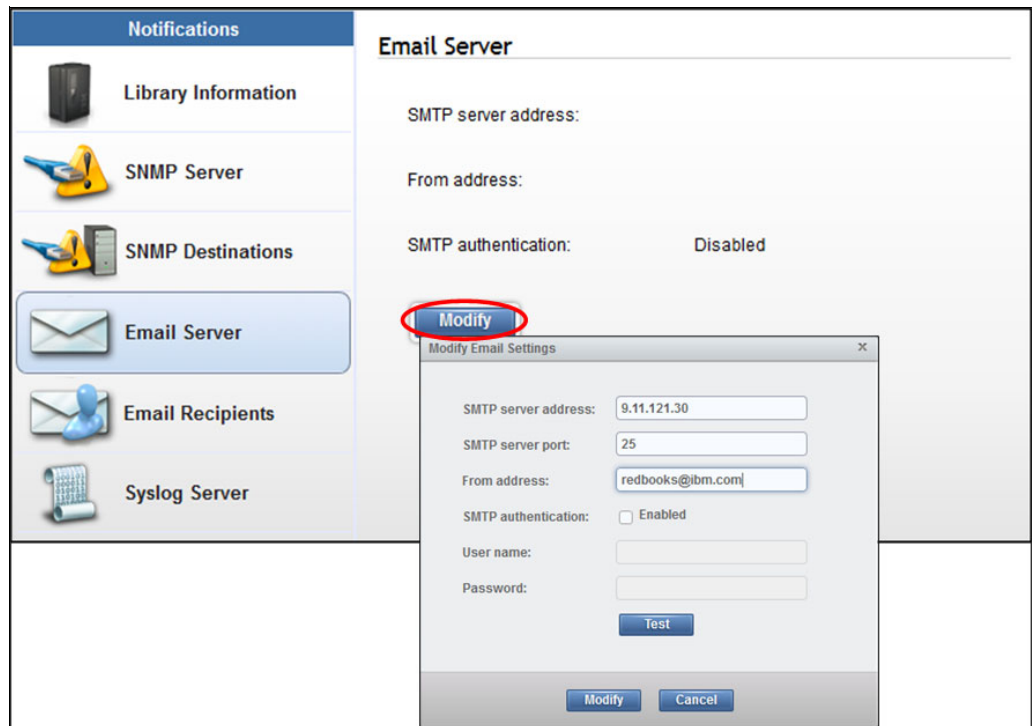

Figure 4-26 Email Server notifications page
2. Then, enable **SMTP authentication**, as shown in Figure 4-26.